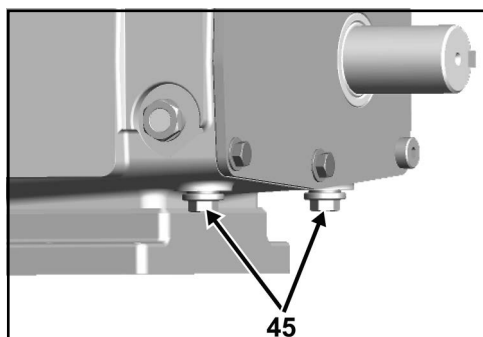

Figure 146 - Remove oil drain plug
1. Remove one of the oil drain plugs (location shown in Figure 146, item 45) and drain the oil. Check the oil for signs for moisture; when contaminated with water, oil makes an emulsion similar to mayonnaise.